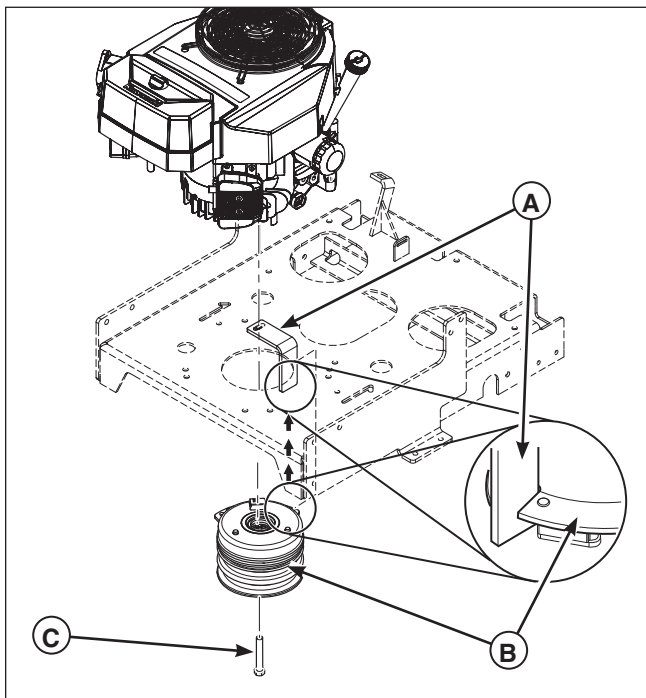

Figure 36. Remove the PTO Clutch
3. Loosen and remove the crankshaft bolt (**C, Figure 36**) and the PTO clutch (**B**) from the engine crankshaft.
*NOTE: Make sure that the slot in the PTO clutch lines up with the PTO clutch mounting tab (**A, Figure 36**) underneath the engine deck.*